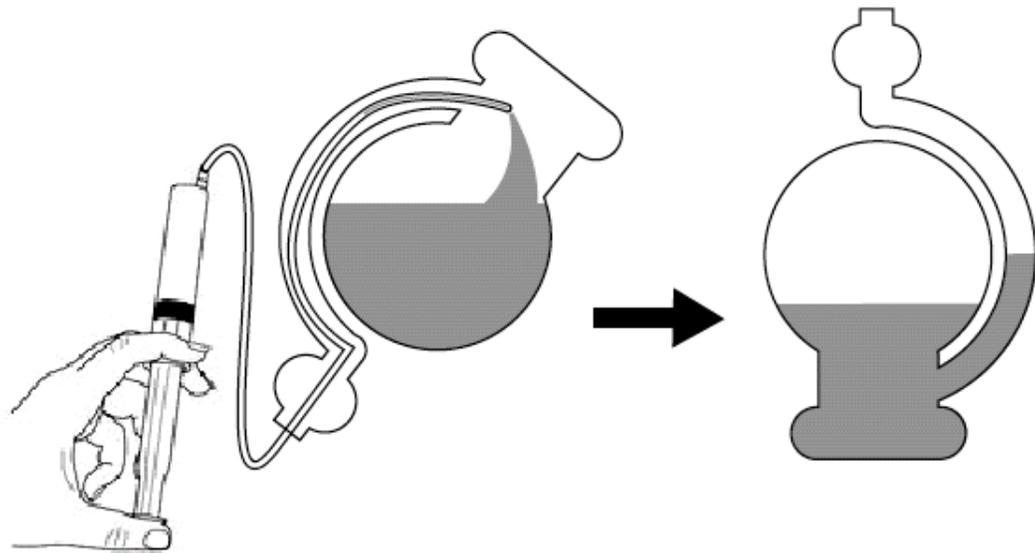

Figure 1
5. Slowly inject the liquid into the storm glass until half of the bulb is filled, as shown in Figure 1.
7. Add more liquid until the water level reaches the height of the arrow in Figure 1 above